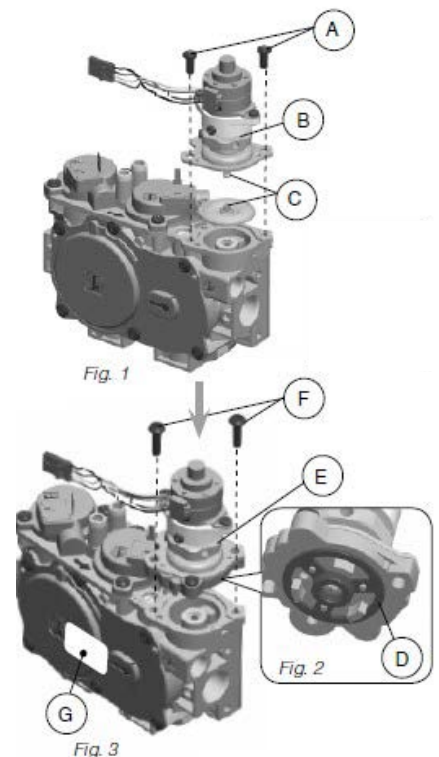

Figure 26: 885 Gas Valve
7. Convert the SIT gas valve (see Figure 26):
Take a minute to familiarize yourself with Figure 26 below.